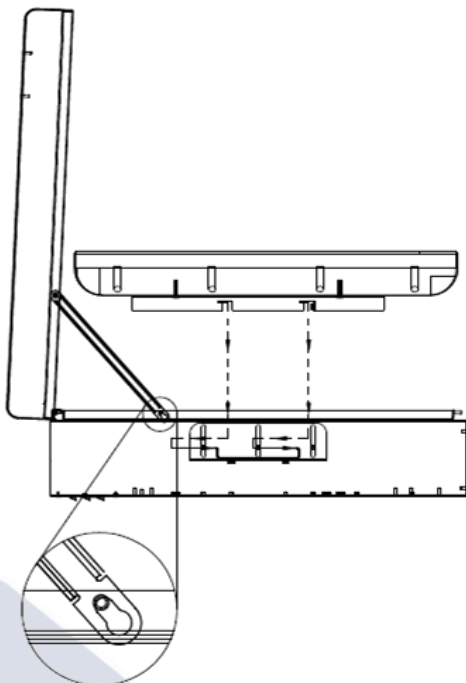

Figure 5
STEP 11: Unlock the door and position the enclosure on its back, securing the door stays within the side pins, and then safely place your display into the enclosure using the interior mounting plate (Figure 5).